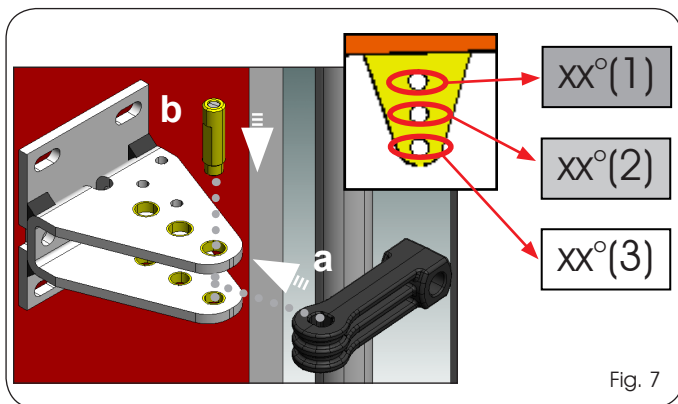

Fig. 7
2. While referring to Table 1 (see white or grey boxes), choose the fixing hole on the rear bracket and install the fork (Fig. 7 Ref. a) by assembling it with the special pin supplied (Fig. 7 Ref. b).